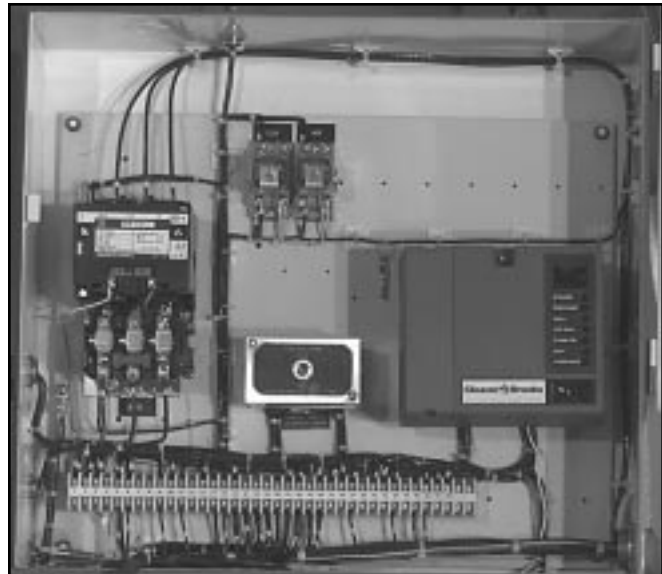

Figure: 2-10 Control Box
8. Atomizing Air Proving Switch (Figure 2-10): A pressure-sensitive switch actuated by air pressure from the Air Pump. Its contacts close to prove presence of atomizing air. The fuel valves cannot be energized unless this switch is satisfied.
18. Indicator Lights (Figure 2-10): Provide visual information of boiler operation as follows (indicator lights vary with controls provided):